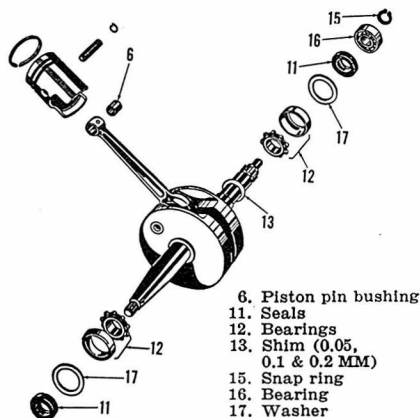

Fig. A1-12—Crankshaft, bearings and piston typical of all models. Crankshaft and connecting rod are available only as a complete unit.
**CONNECTING ROD AND CRANK-SHAFT.** The crankshaft is supported in three ball type main bearings. Bearings and/or crankshaft can be removed after disassembling crankcase as outlined in CRANKCASE AND GEAR BOX. The connecting rod and crankshaft are available only as a complete unit and should **NOT** be disassembled. Crankshaft end play is adjusted to 0.0 (DO NOT PRELOAD BEARINGS) by adding shims (13—Fig. A1-12).